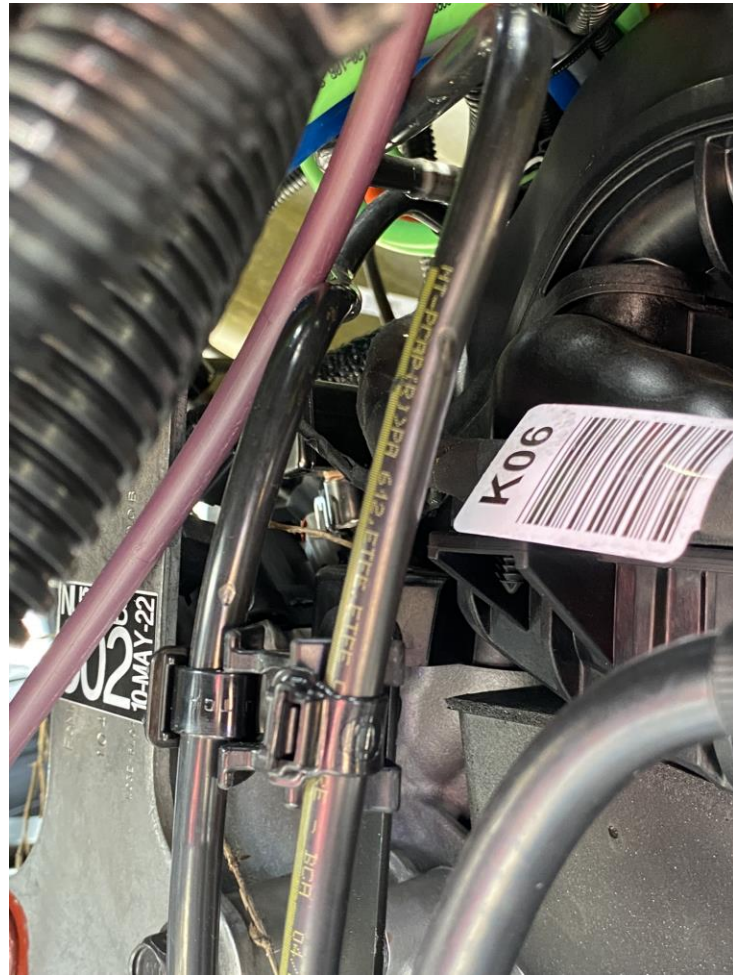

Fig 1
Step 1: Inspect the left rear corner of the engine from the top, and the bottom. If there is greater than 3” of clearance between the shift cable and the fuel line, no further action is required. Ref. Figure 1 for an example of insufficient clearance. If <3” of clearance, proceed to step 2.